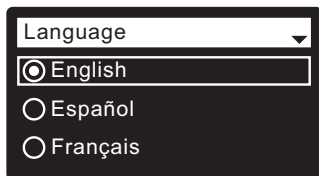

FIG. 11
- 1. LANGUAGE** If the desired language already has a dot next to it (See Figure 11), go to Step 2. Otherwise, press the conditioner/refiner’s DOWN (▼) or UP (▲) buttons to scroll to the desired language, then press the SELECT (○) button to choose it.